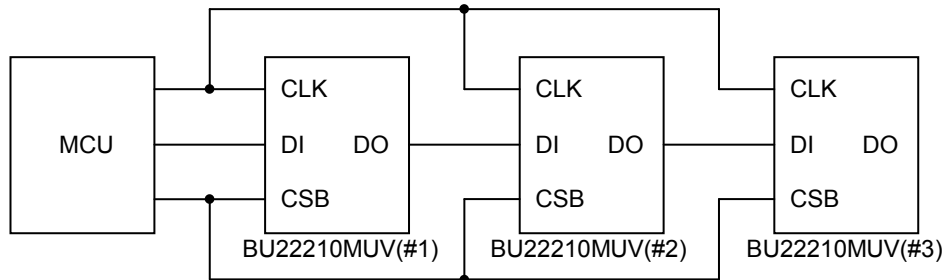

Figure 13. Example configuration of three BU22210MUVs cascade connection
This IC can control multiple BU22210MUVs with one serial interface line by connecting a DO pin to the data input pin (DI) of the next IC. The example of three BU22210MUVs cascade connection is shown in Figure 13, and the communication format in Figure 14.